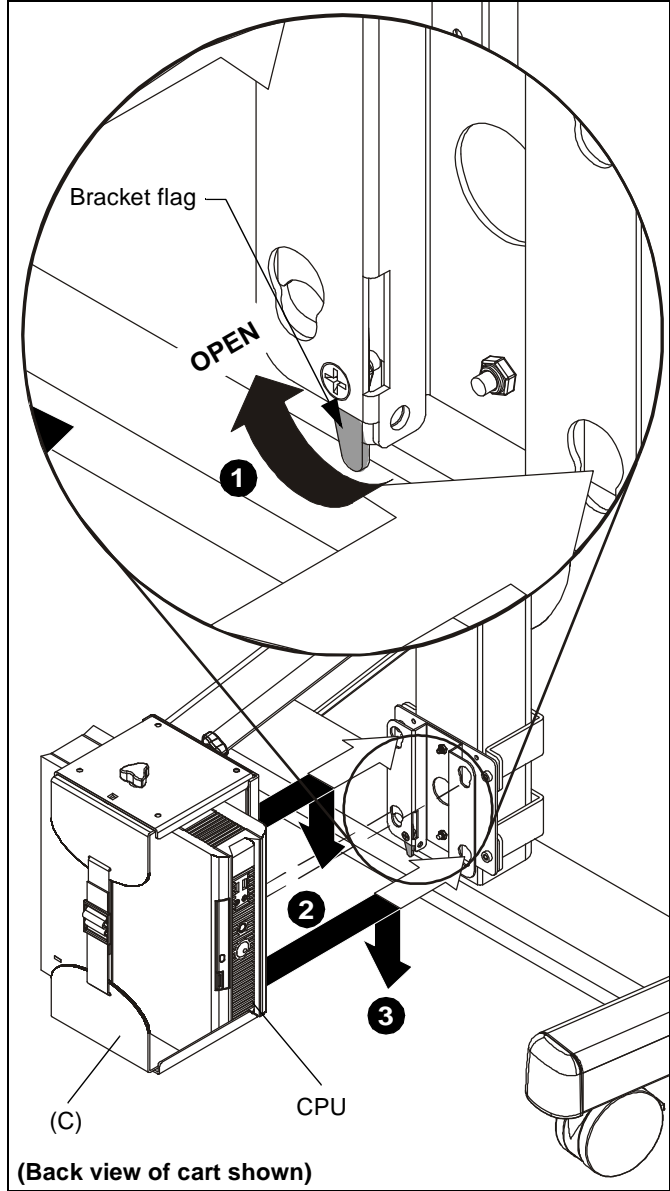

Figure 7
1. Ensure flag on attachment plate with bracket is in the open position. (See Figure 7)
2. Attach CPU mount (C) to cart/stand by inserting four mounting buttons on the CPU mount into the four large mounting holes on the bracket. (See Figure 7)
3. Lower CPU mount (C) mounting buttons into the bottom of the teardrop mounting holes.
4. Move flag to closed position to secure mount to bracket and cart/stand. (See Figure 7)